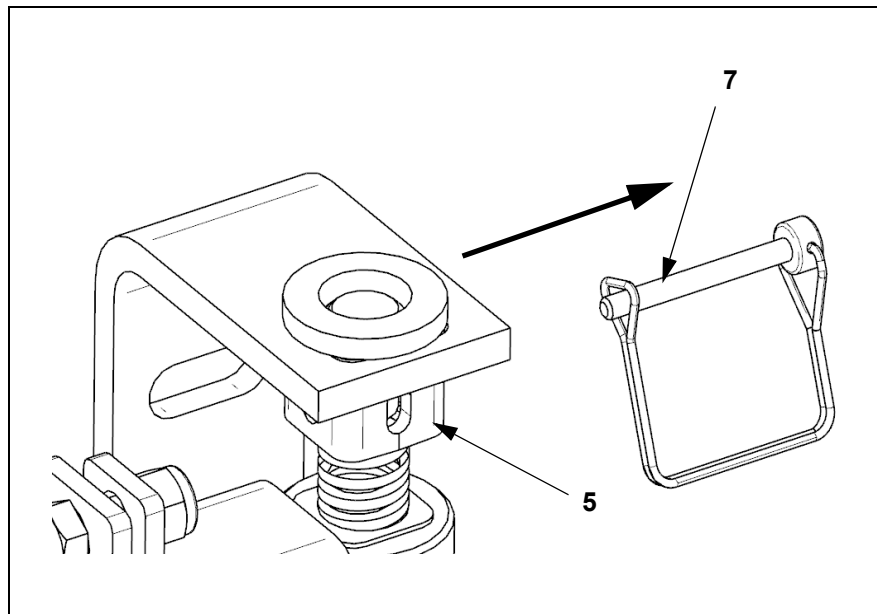
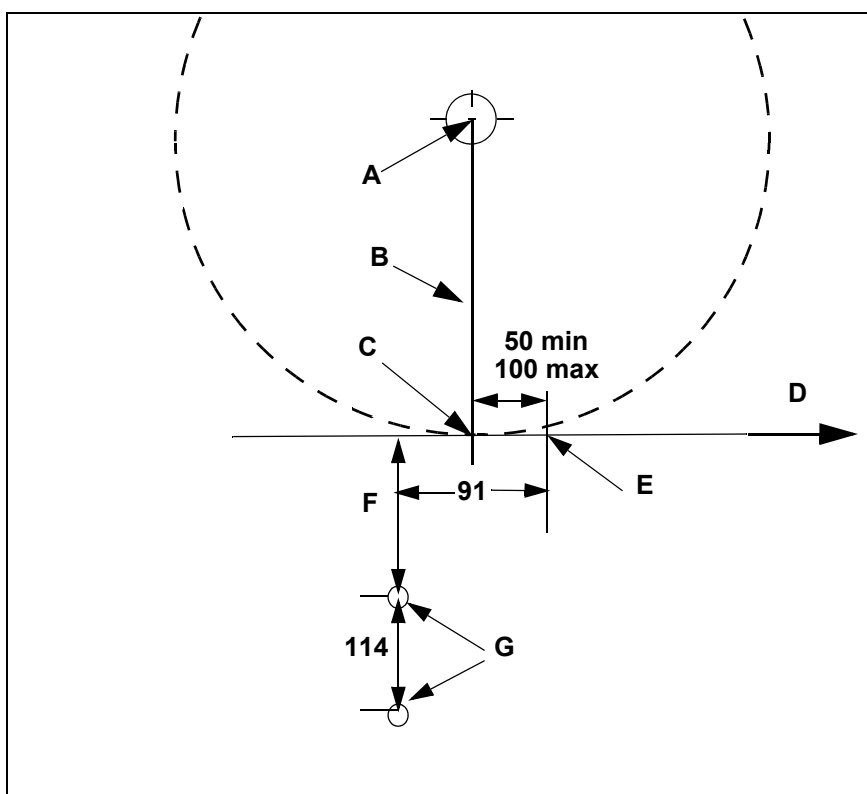

Fig. 1:
Fig. 4:
1. Pull the wire lock pin (7, Fig.1) out of the upper bearing bush (5, Fig.1).
2. Mark the vertical and horizontal centre line of the driving drum on the operator side of the chute wall to determine the centre point (A, Fig. 4) of the driving drum. The vertical line must run at a right angle with respect to the conveyor belt line.
3. Mark a position (E, Fig. 4) at a distance from 50 mm to no more than 100 mm in the conveying direction (D, Fig. 1) from the point at which the belt leaves the head pulley (C, Fig.4).
4. Draw a vertical line at this position (E, Fig. 4) going downwards at a right angle to the conveyor belt.
5. Use the dimensions from Tables 2 and 3 to mark the installation holes for the tensioner (G, Fig. 4).